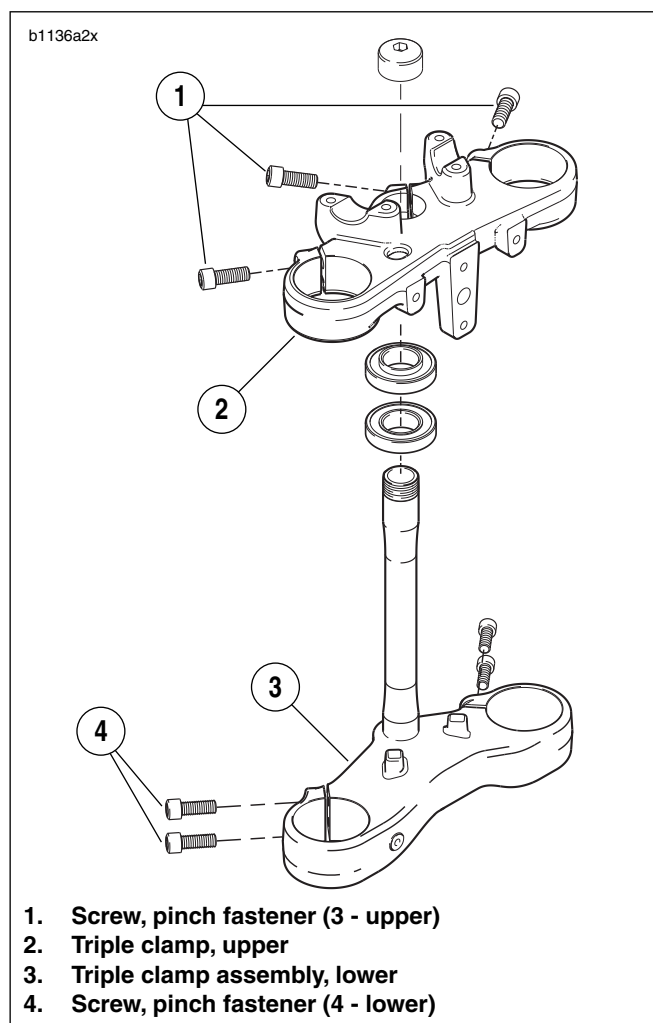

Figure 2-62. Upper and Lower Fork Clamp Assembly
6. See Figure 2-62. Remove fork from lower fork clamp (3).
4. See Figure 2-62. Loosen upper and lower fork clamp pinch fasteners (1, 4).